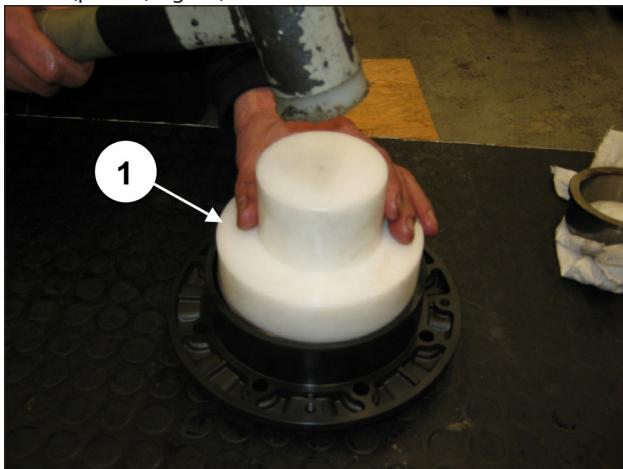
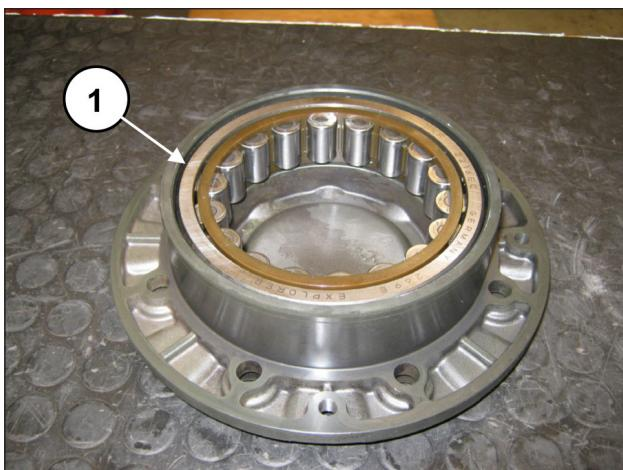

Fig. 57
Fig. 58
Repeat this operation on the bearing cover, pre-assembling the external crankshaft bearing ring with the help of the tool code 27605000 (pos. ①, Fig. 57) inserting fully down to end stroke (pos. ①, Fig. 58).